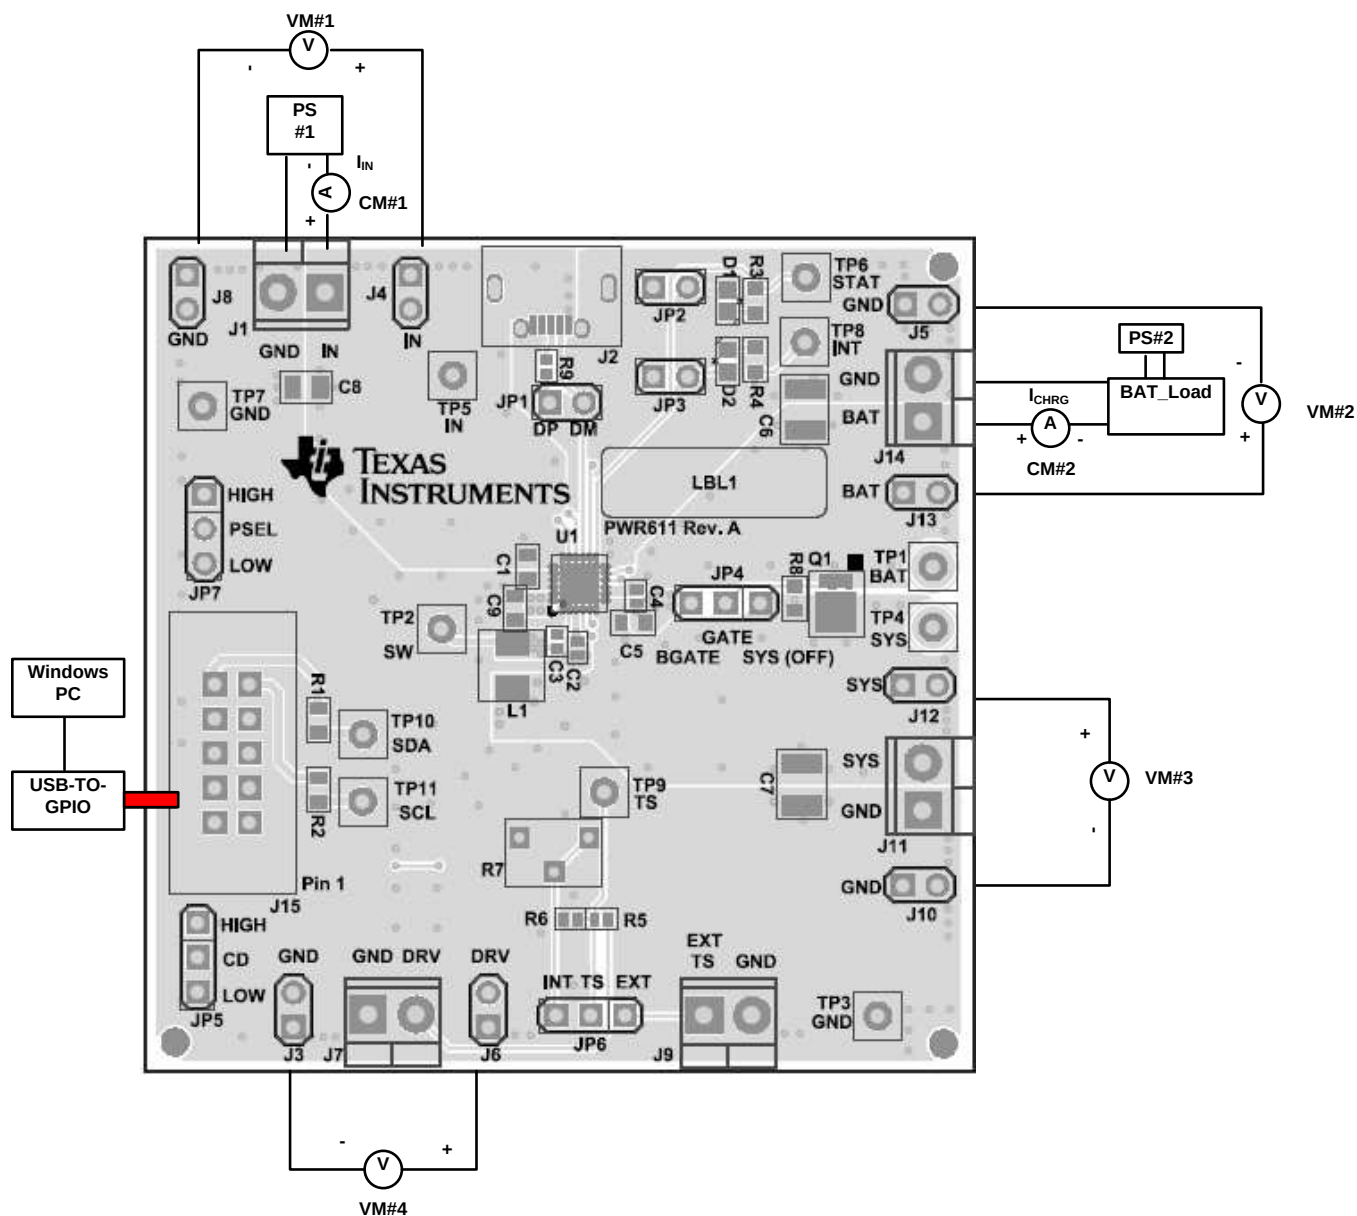

Figure 4. Original Test Setup for bq24260, bq24261, bq24262 EVM
- After the preceding steps have been performed, the test setup for bq2426XEVM-611 is configured as shown in Figure 4.
- Connect the output of PS #1, with at least a 4-A current limit setting, in series with CM #1 to J1 as shown in Figure 4.
- Connect either a real single-cell lithium ion battery or battery simulator across J14 or J13/J5 (BAT, GND) with CM #2 in series as shown in Figure 4. If using a battery simulator like the one shown in Figure 2 and referred to as BAT_LOAD in Figure 4, configure PS #2 with at least 4-A current limit for 3.4 V.